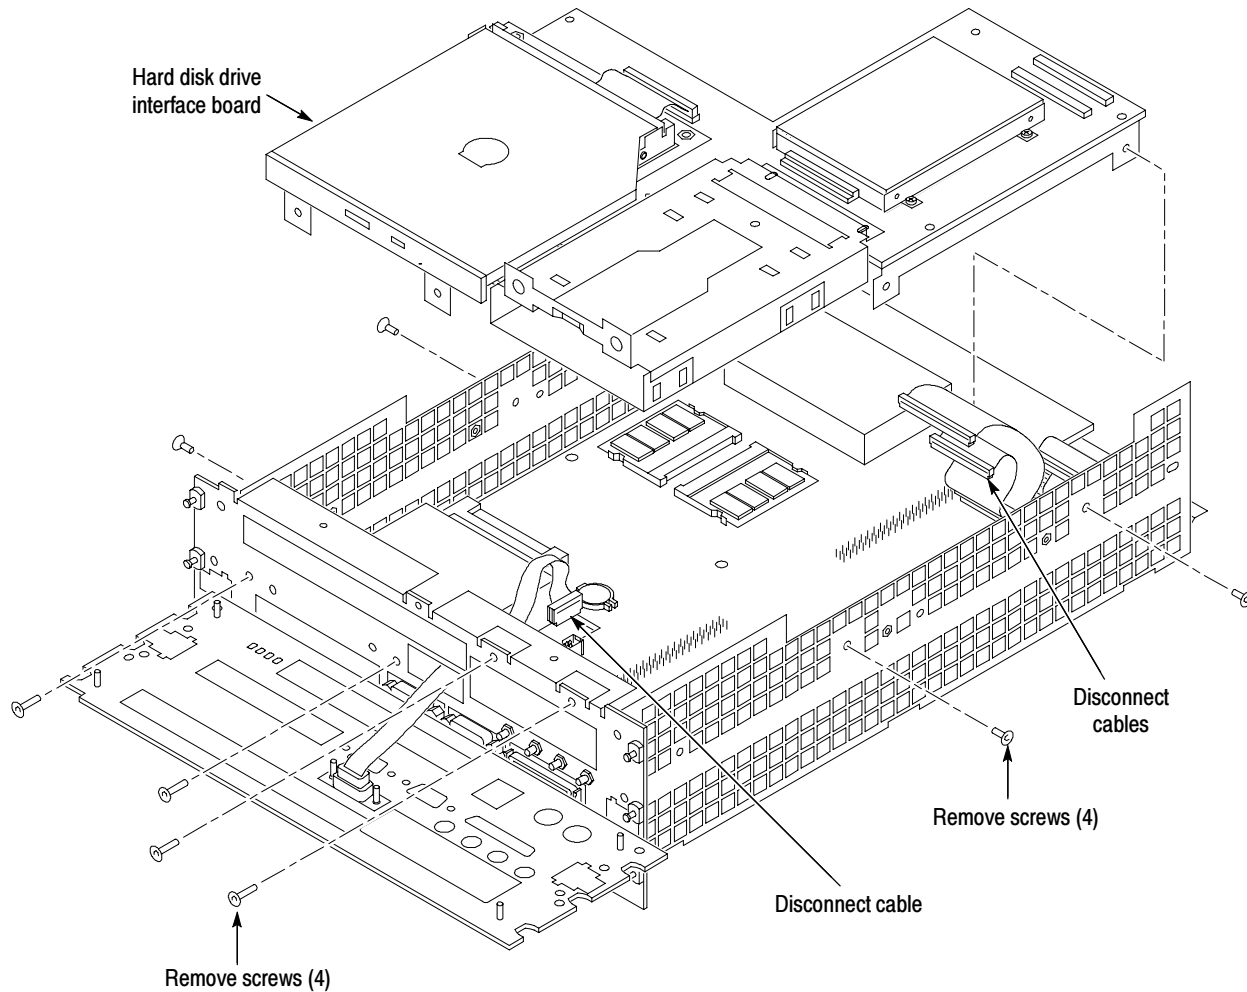

Figure 12: Removing screws from the front and sides of the controller
5. Refer to Figure 12 and remove the four T-10 screws from the front of the controller.
6. Remove the four flat-head T-10 screws on the bottom cover that hold the hard drive interface board in place. See Figure 12.